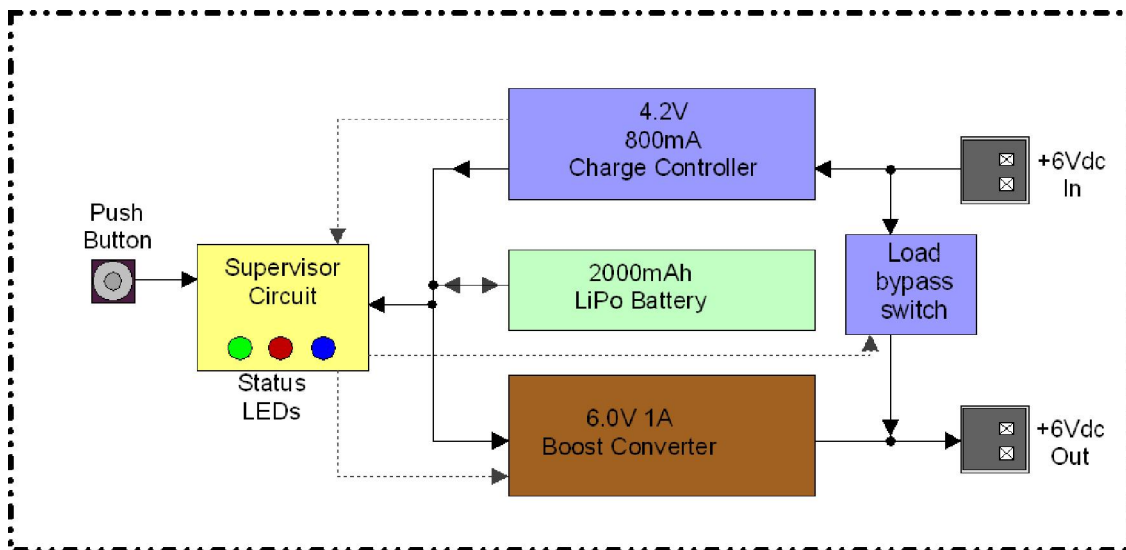

Figure 1 Block Diagram
**Figure 1** shows a block diagram of the UPS6V-2 system topology. The major elements are the single-cell 2000mAh lithium polymer battery, the battery charger circuit, the 6.0V 1A boost converter, the load bypass switch, and the supervisor circuit. The enclosure is a rugged CNC machined aluminum enclosure with an anti-corrosion finish.